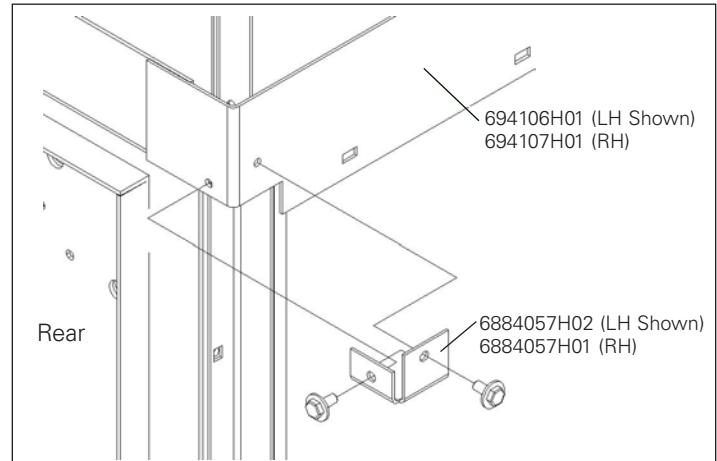

Figure 14. Installation of the Gas Deflector Filler Plates (Left-Hand Shown)
- F. Line up the gas deflector filler plate (68B4057H01 or H02) with the holes in the bend on the rear of the front to rear gas deflector. Insert and tighten two self tapping screws (See **Figure 14**).